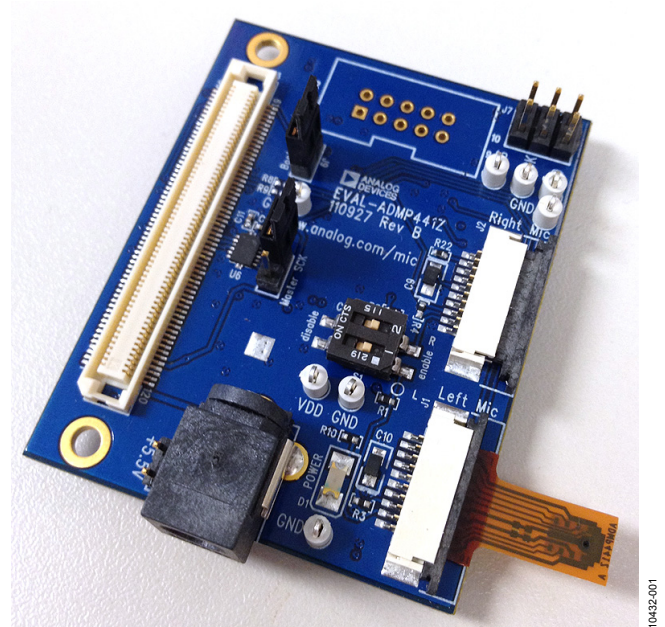
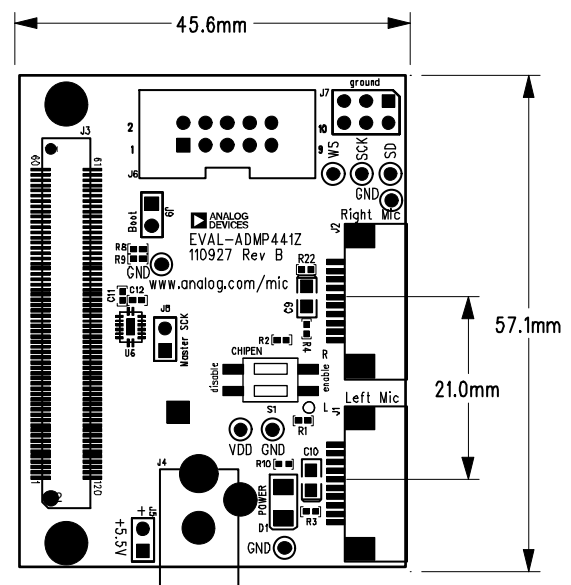

Figure 1. Evaluation Board Photo
Figure 2. Evaluation Board Dimensions in mm
1. Connect at least one EVAL-ADMP441Z-FLEX board to the EVAL-ADMP441Z daughter board (see Figure 1).
Figure 1 shows a photo of the EVAL-ADMP441Z daughter board with one EVAL-ADMP441Z-FLEX board plugged into the ZIF connector. Figure 2 shows the dimensions of the evaluation board.